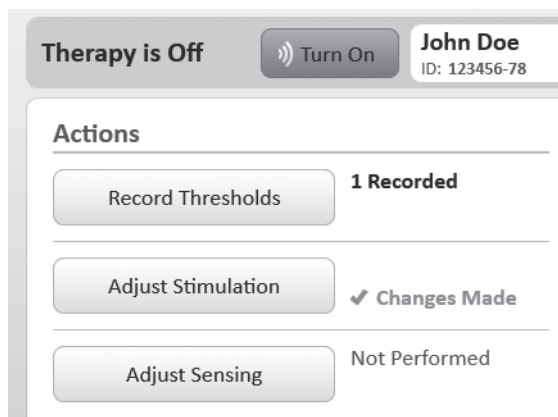

Figure 4-8. Action Status Indicators
- The number of stimulation threshold parameter sets recorded displays when thresholds have been saved on Record Thresholds screen (Figure 4-8).
- Changes Made with a blue check mark indicates stimulation parameters were changed (Figure 4-8).
- Not Performed indicates activity has not been completed (Figure 4-8).